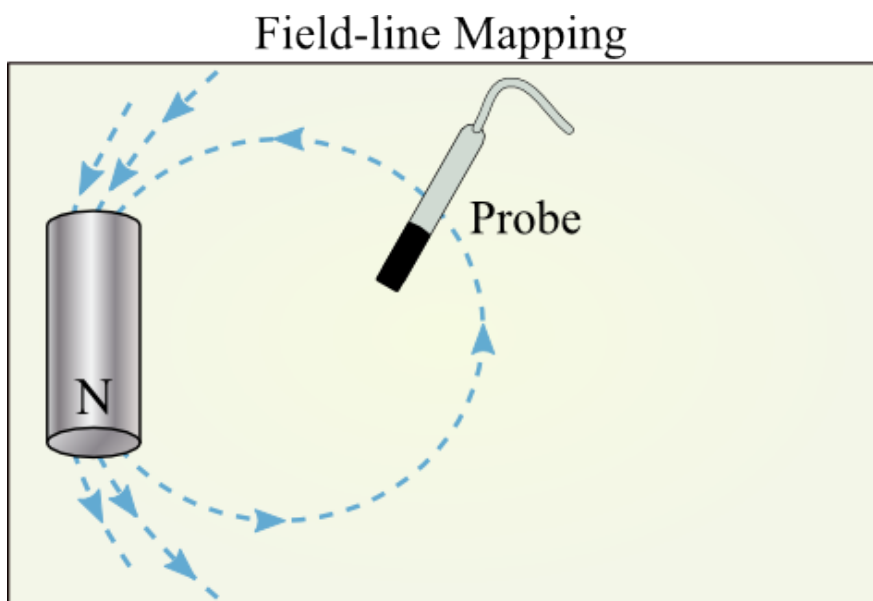

Figure 5
- 2 Make a field map. Tape (or hold) both ends of the magnet near the top of a sheet of paper (see Figure 5). Place the page flat on your bench. Keep other magnets well away while mapping lines. Trace the magnet position on the paper, and mark the end having the north pole. Use the magnaprobe to find the field direction in one spot, and draw a small arrow there, with the arrow point toward the probe-needle north. Go in the arrow direction to a spot nearby, and find the field direction there. Repeating this, generate a string of arrows that traces out a field line. Map about four lines this way. Carefully remove the tape when finished. Your group should sketch this out on the field-line mapping template using Paint. You will upload this sketch.
- 4 With the cylindrical magnet you studied earlier with the magnaprobe, now examine how the Hall probe measures fields (see Figure 5). Maximum positive or negative readings are obtained when the fields are in line with the length of the probe. Move the probe so that you can verify how the probe tip is oriented inside the plastic end of the probe. Make sure you understand this, and that your probe works the way you expect it to.